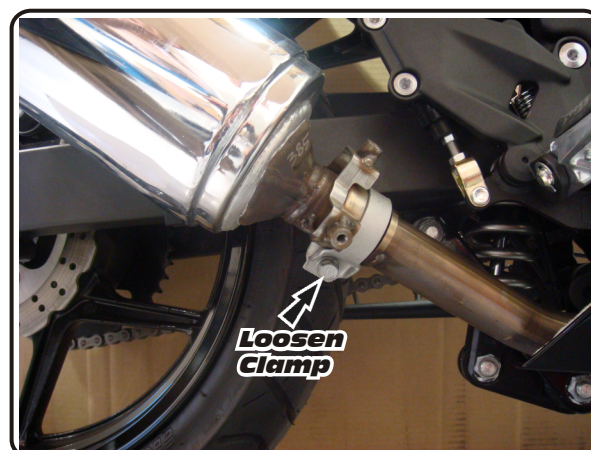

Fig. 2
2. Loosen the stock exhaust clamp (see Fig. 2).